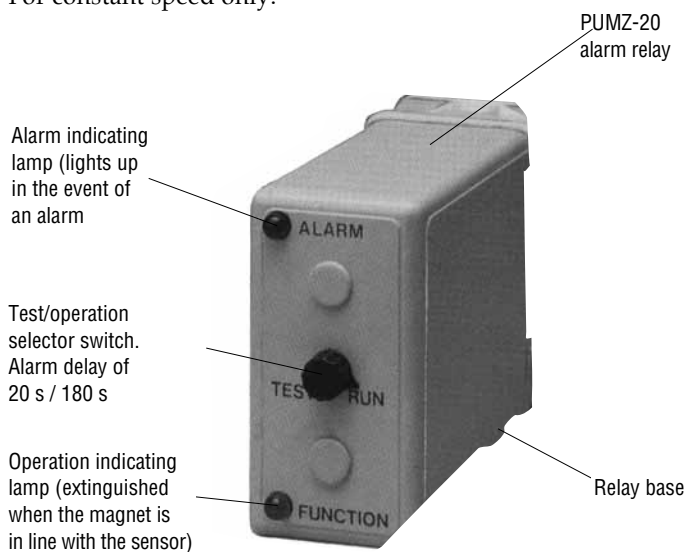
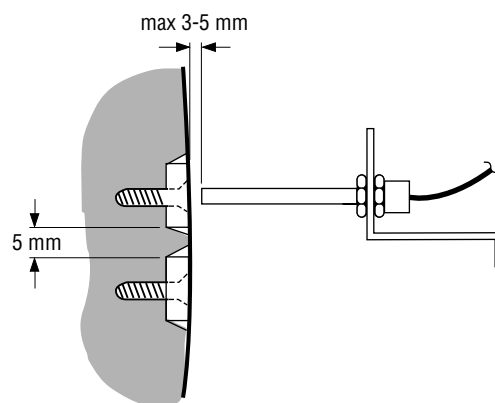
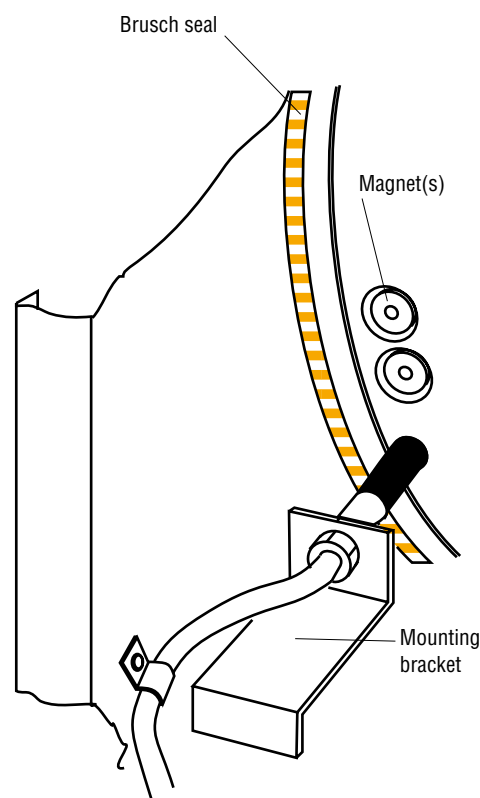

Fig. 1
Fig. 3
Fig. 4
If the heat exchanger has been ordered with a speed detector, the parts shown in Fig.3 will be fitted at the factory. The alarm relay shown in Fig. 1 is delivered separately.
- Fit the magnet(s) included in the delivery to the rim plates of the rotor. On the larger sizes, locate the 2 magnets 5 mm apart, in line along the periphery of the rotor, see Fig. 3. Fitting sequence: Remove the lower inspection cover, turn the rotor which has the largest radial run-out. Secure the magnet in position adjacent to the right-hand clamping strap. Ensure that magnetic pulse sensor GS2 is well clear of the clamping strap joints.
- Fit the impulse sensor to the mounting bracket and locate the bracket to the casing partition (see Fig. 4). Locate the mounting bracket so that the distance between the sensor and the magnet will not exceed 3-5 mm (see Fig. 3). Secure the mounting bracket in the cross piece by means of two self-threading screws.